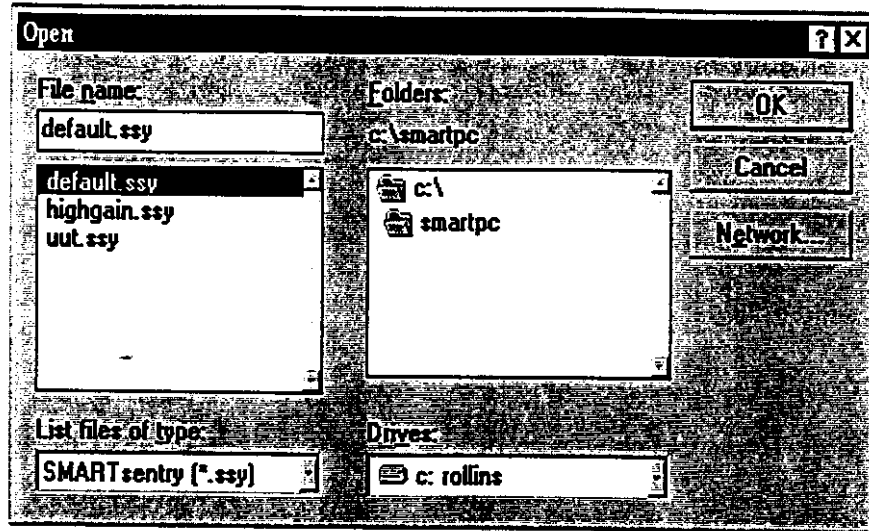

Figure 4 Open Dialog Box Screen
2.2.3.4 In the Open dialog box shown in Figure 4, select **default.ssy**, which is the default SA1800 configuration